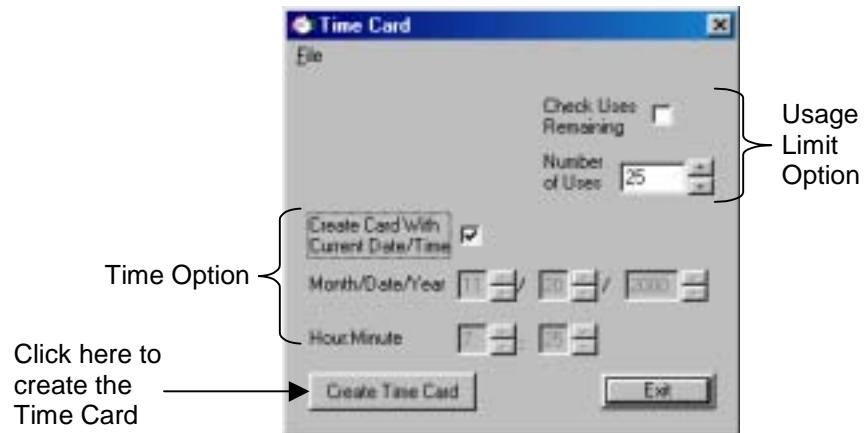

Figure 11.45 Creating the Time Card
2. If this card is to be issued with only a limited number of uses, check the “Check Uses Remaining” option and enter the number of times this card can be used (Figure 11.45).
3. Enable the “Create Card with Current Date/Time” option to create the Time Card with your PC’s Date and Time, or disable this option and enter desired date and time manually (Figure 11.45).
5. Click the Create Time Card button (Figure 11.45).